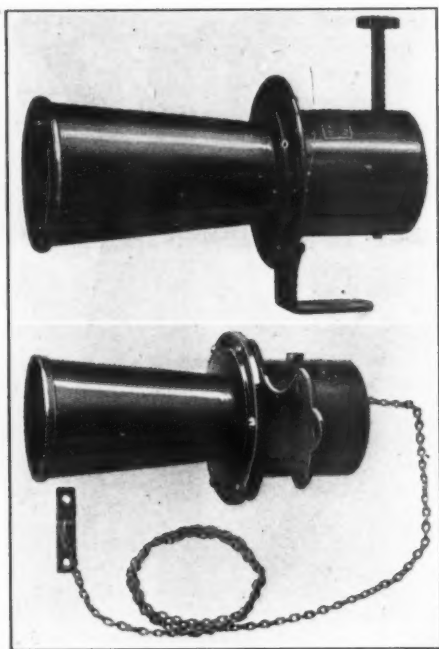

Fig. 4—Upper—Handphone mechanical horn. Lower—Cablephone horn. The chain is attached to the steering wheel rim
**Handphone and Cablephone Horns—**Two new horns, Fig. 4, have been put on the market by the Automobile Supply Mfg. Co., Brooklyn, N. Y. One is operated by depressing a hand button extending from the top of the horn housing, and the other is blown by pulling a chain that is attached to the rim of the steering wheel. The former must be within easy reach of the driver, and is generally located at the side of the car. The latter, however, like an electrically operated horn, can be placed anywhere, the chain being of sufficient length to allow this. The price of both devices is \$7.